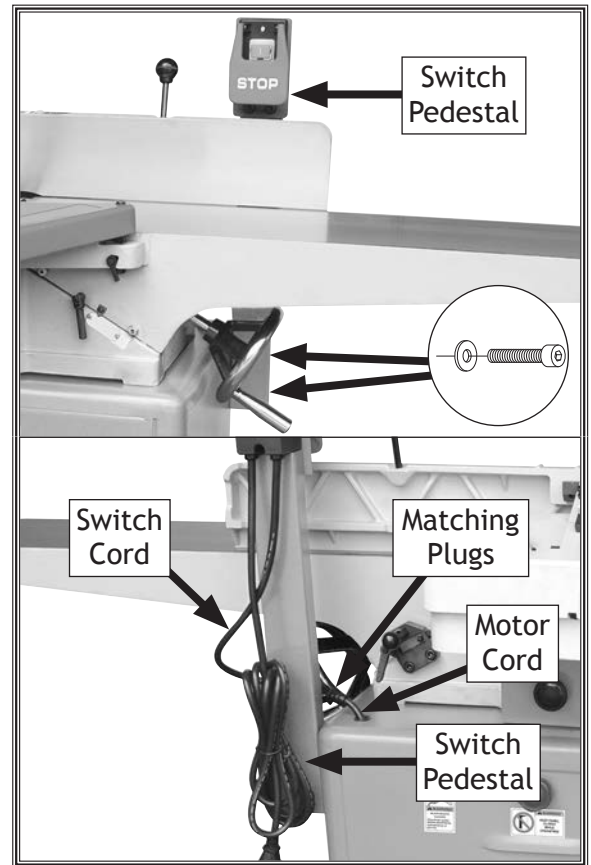

Figure 18. Switch pedestal attached to stand and cords connected.
17. Attach switch pedestal to stand with (2) M8-1.25 x 70 cap screws and (2) 8mm lock washers (see **Figure 18**).
18. Connect switch cord to motor cord (see **Figure 18**).